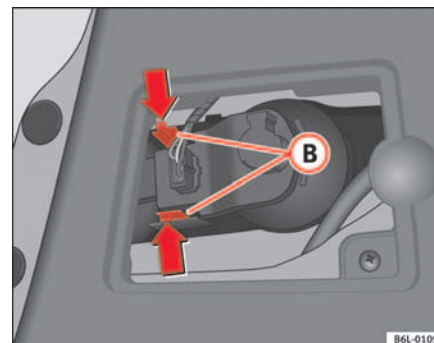

Fig. 154 Rear light on tailgate
- Press the tabs (B) ⇒ page 215, fig. 154 of the lamp holder and remove lampholder.